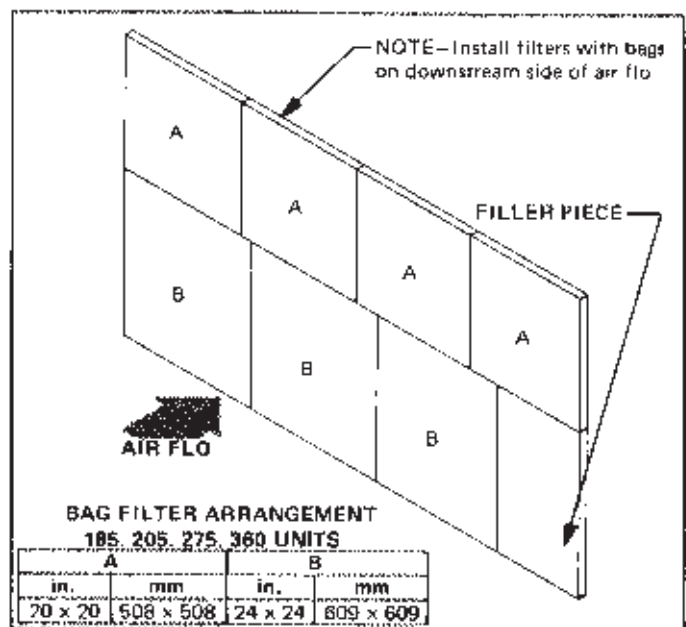
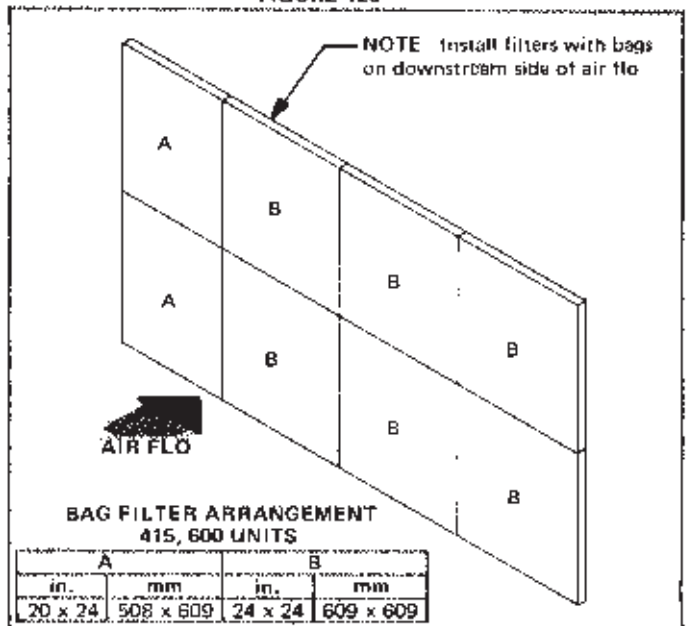

FIGURE 128
FIGURE 129
- Replace filter bag assemblies in unit. See Figure 128 (185, 275, 300, 360) or Figure 129 (415, 600) for arrangement.